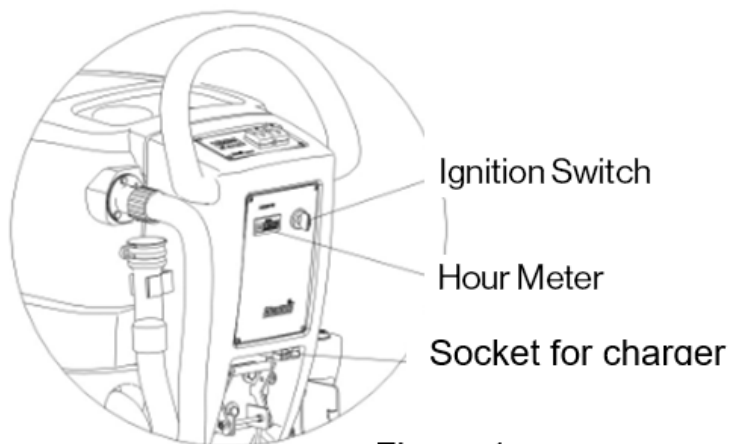
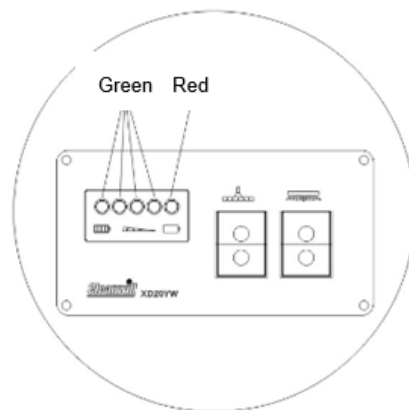

Figure 1
Figure 2
2. Insert the activation key into the start switch and rotate it to "1" (Seen in figure1) to check the battery capacity. Operation should never be carried out until the green light turns on (seen in figure2) to indicate the full capacity of the battery.